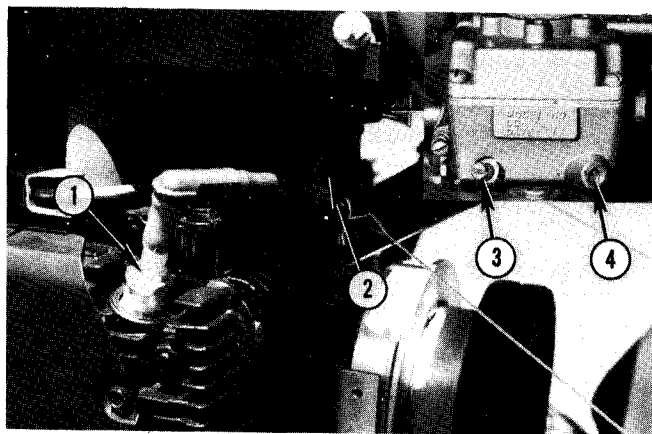

Fig. 27 — Engine — Right Side
CARBURETOR ADJUSTMENT — FIG. 27
1. Stop engine, remove hood from Tractor and turn both fuel mixture screws in until they bottom (do not force), Fig. 27.